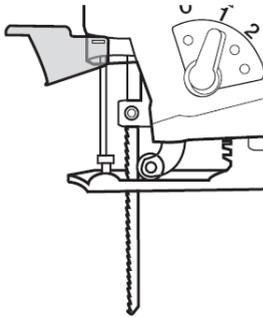
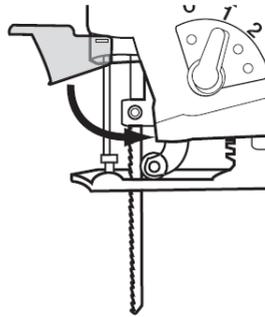

fig. 3
fig. 4
3. With the hex key (4) release the two screws (8) from the saw blade holder. Don't turn the screws all the way out.
4. Put the saw blade all the way into the holder (16) between the two screws (8). Make sure that the saw teeth are turned to the front (Fig.3).
5. Fix the two screws (9) again. Make sure that the saw blade is mounted correctly. Make sure that the saw blade is placed properly in the groove of the roll (15).
6. Put the hex key (4) back into the holder.
7. Close the protective cover (9) (Fig.4).